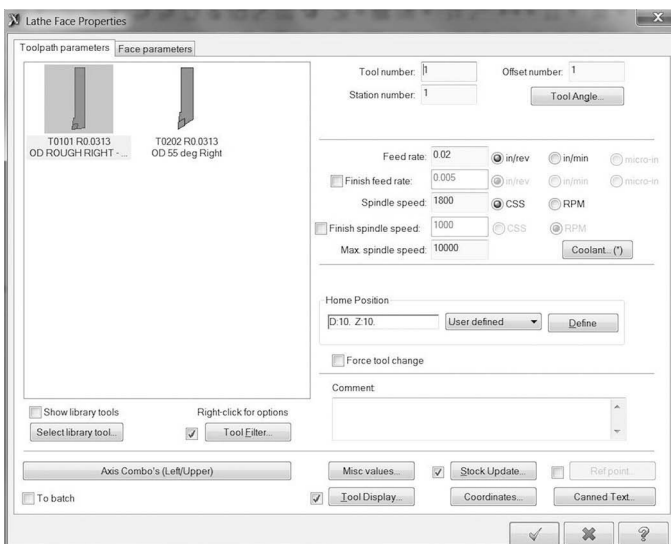

Figure 5-64 Lathe Face Properties Dialog
- From the tools displayed, select the OD Rough Right from the tool list (Figure 5-64).